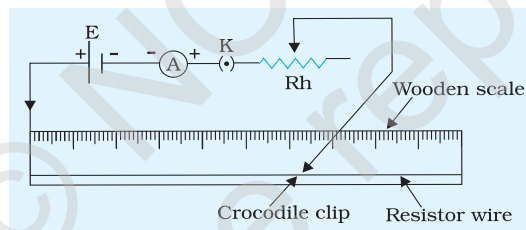

Fig. E 1.3
6. Set up a circuit as shown in Fig. E 1.3.